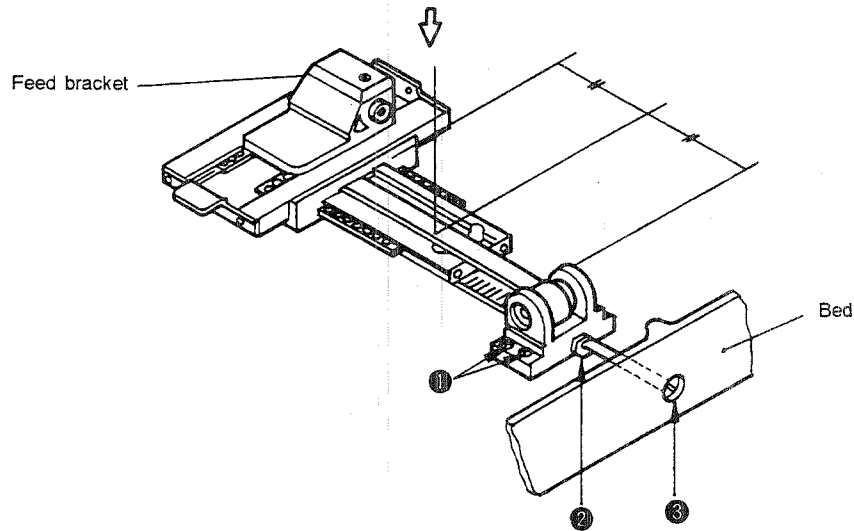

Fig. 5-31-1
<ul style="list-style-type: none"> o Loosen screws ① and nut ②. Turn tension adjusting screw ③ to adjust the belt tension. Tighten screws ① and nut ②. <p>(Caution) Tightening screws ① will affect the belt tension, so check the belt slack again after tightening screw ①. (Fig. 5-31-1)</p>	<ul style="list-style-type: none"> o If the amount of slack of the belt is smaller than 1.6 to 1.8 mm (0.063" to 0.071") (the belt tension is too high), the belt may break. o If the amount of slack of the belt is larger than 1.6 to 1.8 mm (0.063" to 0.071") (the belt tension is too low), the feed will excessively vibrate. As a result, the finished shape of the sewing pattern will be deformed.